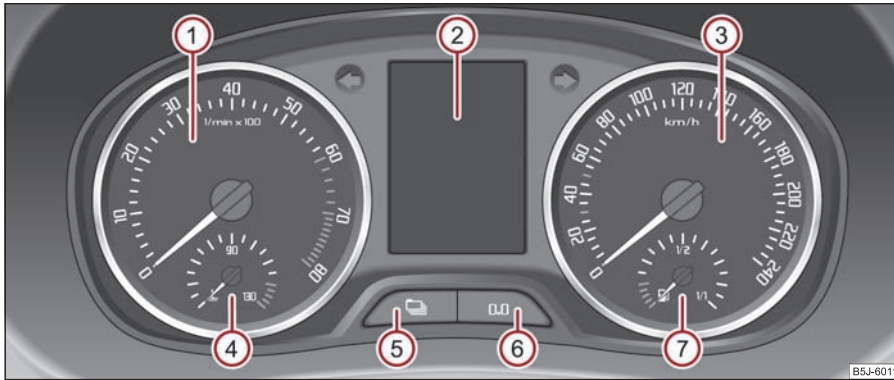

Fig. 15 Instrument cluster
The red zone of the rev counter scale ① ⇒ fig. 15 indicates the range in which the engine control unit begins to limit the engine speed. The engine control unit restricts the engine speed to a steady limit value. ►
The coolant temperature gauge ④ ⇒ page 15, fig. 15 operates only when the ignition is switched on.
The fuel gauge ⑦ ⇒ page 15, fig. 15 only operates when the ignition is switched on.
If you hold the reset button  ⇒ page 15, fig. 15 pressed for about 1 second, the trip counter is set back to zero.